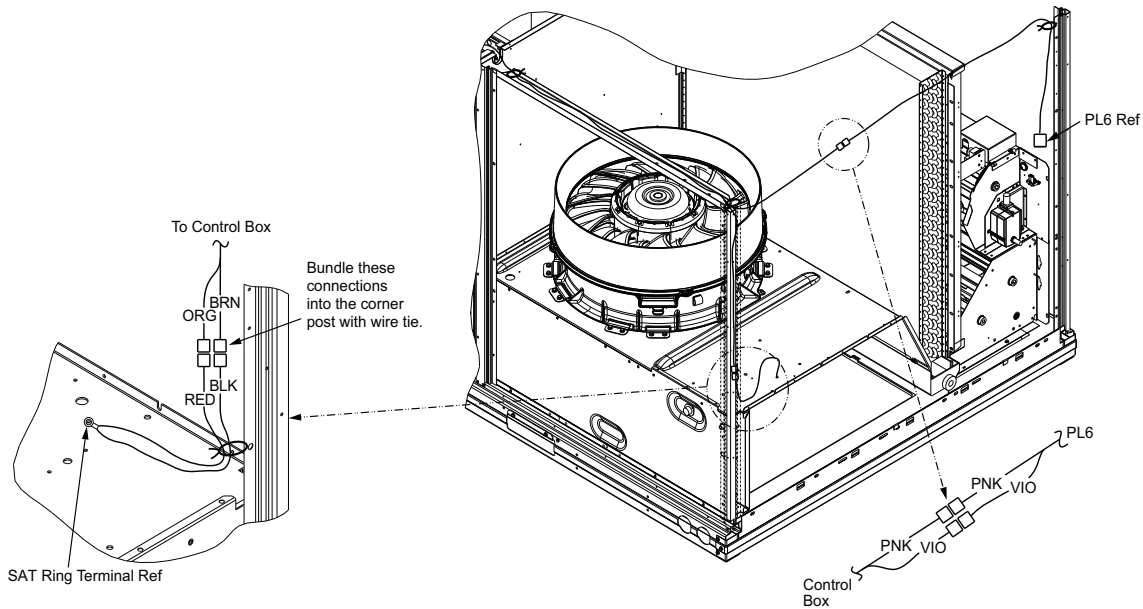

**Fig. 17 — Connect 12-Pin Plug to Unit Control Board**
19. Connect the 12-pin female plug from the controller harness to ECON on the UCB. Refer to Fig. 17 and wiring diagram on page 9.)